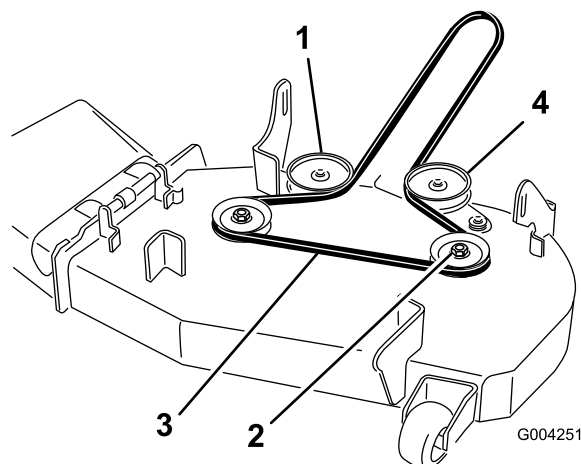
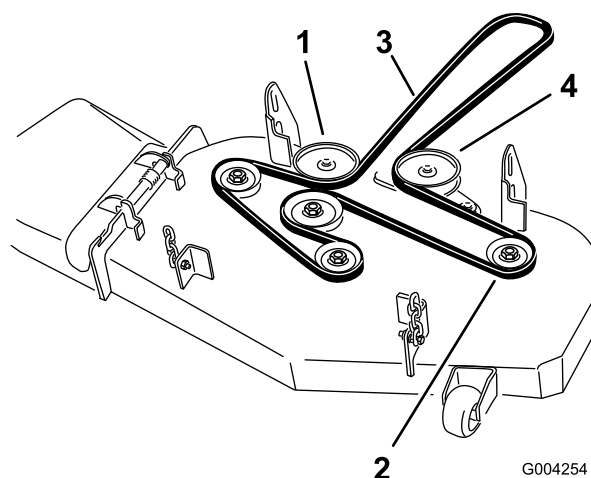

Figure 42
Figure 43
4. Pull on the idler arm to relieve the belt tension on the left spindle pulley (Figure 42 or Figure 43).
6. Install the new belt around the pulleys (Figure 42 or Figure 43).